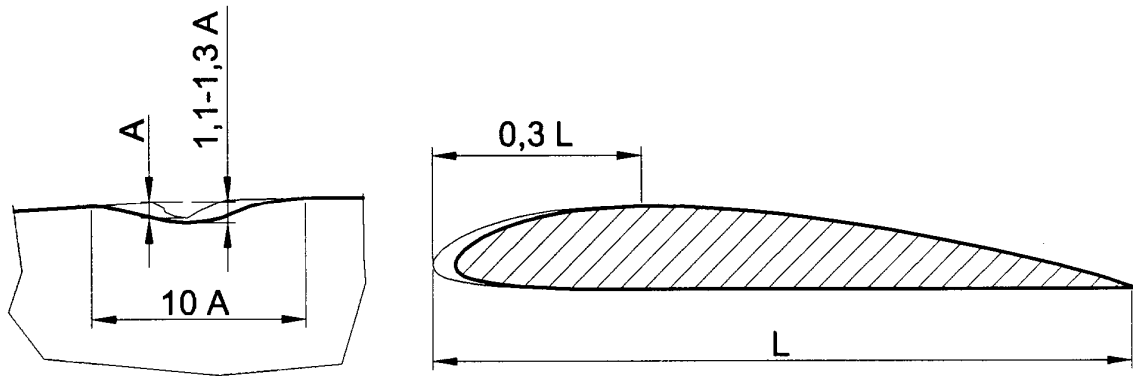

Fig.501 Leading edge or trailing edge of propeller blade repair
(1) Mechanical damage of the propeller blades repair by soft file and sand paper 240 grain.
(2) Leading or trailing edge of the blade clean that grinding width equals to 10 x damage depth, repair depth must be between 1,1 - 1,3 damage depth (see Fig.501). Repair sucking side by depth decreasing such that leading edge radius equals to adjacent undamaged part of the blade with smooth conversion to 30% profile depth. Repair rate permitted is in tab 501.